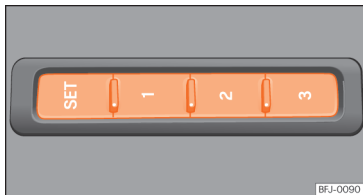

Fig. 98 On the outer side of the driver seat: memory buttons.
- Press **SET** for longer than 1 second >>> Fig. 98.